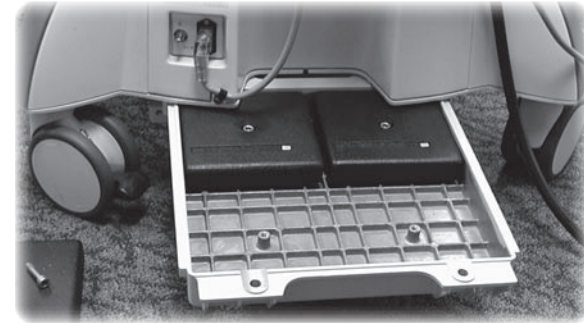

Figure 7-4. Ballast Installation
10. Install two ballasts into tray using 6 mm hex bolts and partially slide ballast tray into guides in base console leaving enough room to install the remaining ballasts as shown in Figure 7-4. Install remaining ballasts.